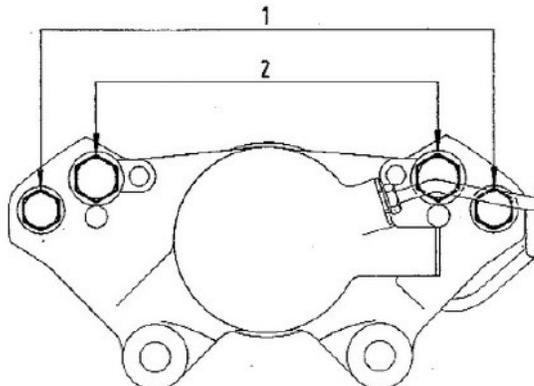
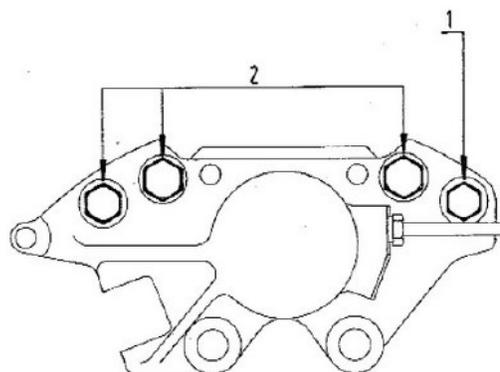

Fig. 115. - Front caliper halves tightening torques. 1. 7200-7600 kgmm (52-55 ft.lbs) - 2. 9200-9700 kgmm (67-70 ft.lbs).
Fig. 116. - Rear caliper halves tightening torques. 1. 3900-4100 kgmm (28-30 ft.lbs) - 2. 7200-7600 kgmm (52-55 ft.lbs).
- **Front calipers (fig. 115):**
- Inner pair of bolts (2) 9200 to 9700 kgmm (67 to 70 ft.lbs)
- Outer pair of bolts (1) 7200 to 7600 kgmm (52 to 55 ft.lbs)
- **Rear calipers (fig. 116):**
- Topmost bolt (side opposite hand brake) (1) 3900 to 4100 kgmm (28 to 30 ft.lbs)
- The other three bolts (2) 7200 to 7600 kgmm (52 to 55 ft.lbs)